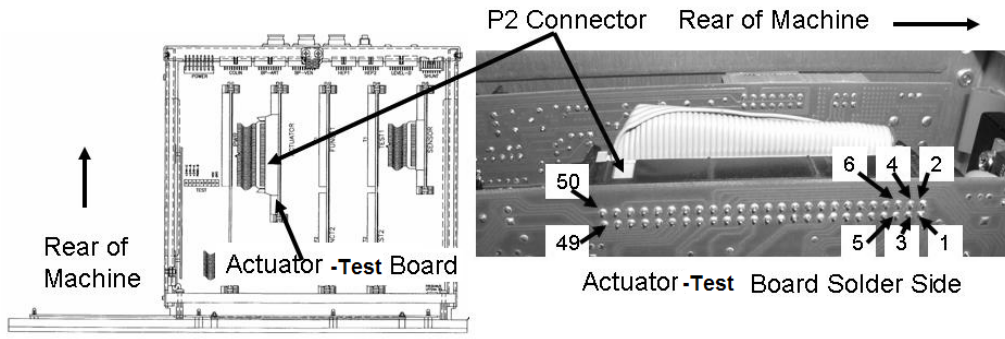

Figure 92 – Electronic Card Cage (Actuator-Test Board)
- i) Per Figure 92 (page 522), the cable terminates at the actuator board's P2 connector. The rear side **PINS** are in two rows. Odd numbered in the bottom row, even in the top. NOTING the reference to the 'Rear of Machine' locate the appropriate **PIN** per Table 12 or Table 13.